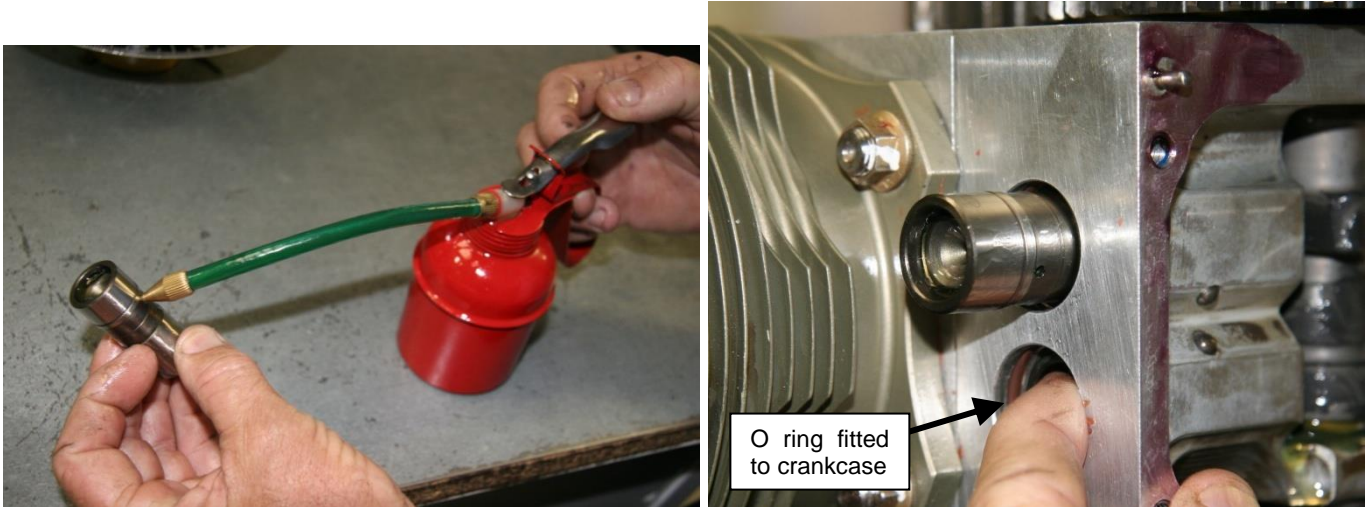

Figure 186 – Fitting Hydraulic Lifter To Crankcase
2. For hydraulic lifter engines, fill the lifters with oil (using an oil can - Figure 186) and fit the lifters to the crankcase. The outside of the lifter must also be well lubricated with oil before fitting and note also the light covering of grease which has been applied to the camshaft lobes – this is to minimise wear during initial start-up. Note that solid lifter engines have their lifters fitted before crankcase assembly – there is no way to do it once the case halves are assembled.
4. Fit new O rings to the crankcase to seal the pushrod tubes (solid lifter models) – see Figure 186.